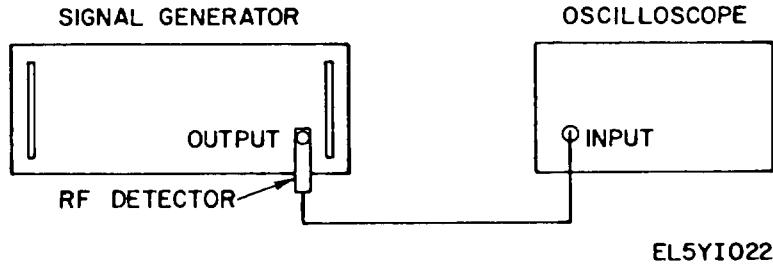

FIG 9-12. TEST SETUP, SPURIOUS AM
- a. Connect the equipment as shown in figure 9-12.